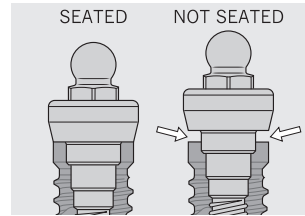

Fig. 3
- (Fig. 3): Using an X-ray verify that the Dalbo® Certain® Abutment is seated correctly on the implant. Hold the film perpendicular to the interface of the Dalbo® Certain® Abutment and the implant.